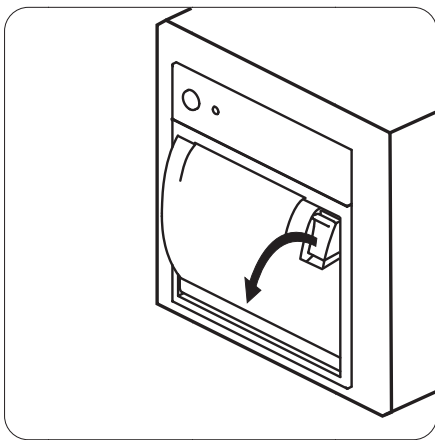

Figure 11-11 Installing Recorder Paper-1
1. Use the latch at the upper right of the recorder door to pull the door open, shown in Figure 11-11.